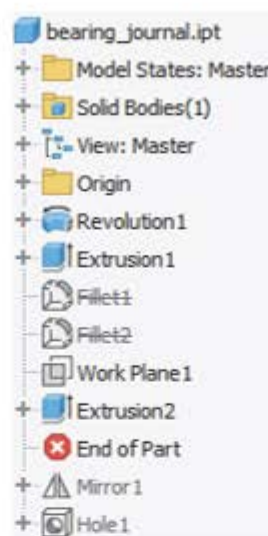

Figure 10–29
5. Which items in the Model browser shown in Figure 10–29 are *Suppressed* in the model? (Select all that apply.)